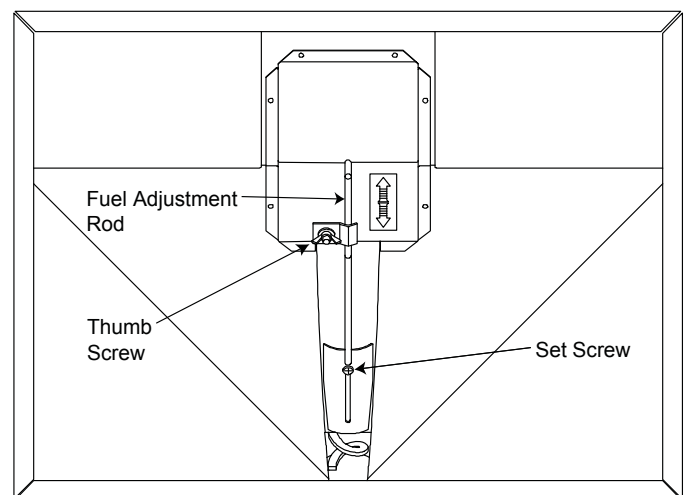

Figure 24.1
The feed adjustment control rod is factory set, and should be adequate for most fuels. The set screw is located at the bottom of the hopper and set loose at the factory so the fuel adjustment control rod will slide up and down by only loosening the thumb screw at the top. **See Figure 24.1.** Do not re-tighten bottom set screw.
1. Loosen the thumb screw. **Figure 24.1**